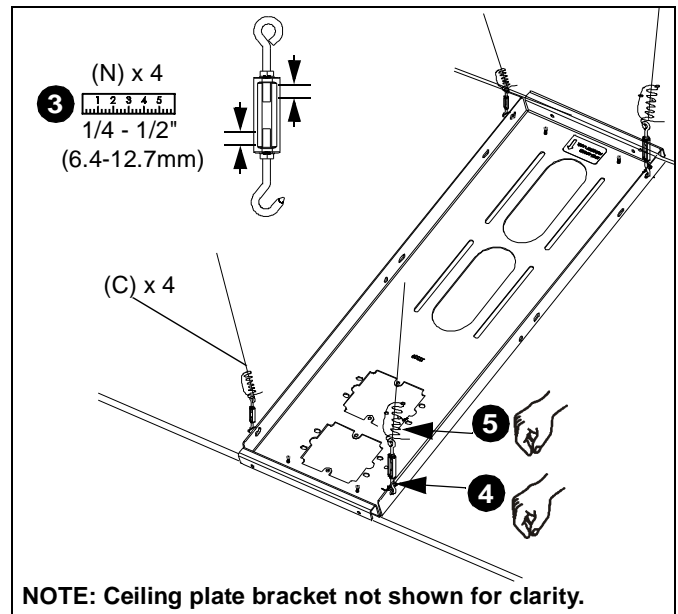

Figure 11
3. Adjust hooks and eyes on turnbuckles (N) so that approximately 1/4" - 1/2" (6.4mm - 12.7mm) of threads show on *inside* of turnbuckles (See Figure 11).
4. Attach the hook end of each turnbuckle (N) to the corresponding hole on the ceiling tray. (See Figure 11)
5. Insert corresponding support wire (C) through eye in each of the four turnbuckles (N). Pull wire tight and twist back around itself at least 4 complete turns, then thread loose end between eye and first turn. (See Figure 11)
**CAUTION:** Failure to properly tension cables (C) may result in damage to ceiling tile framework!
6. Adjust turnbuckles (N) until tray (A) is supported *entirely* and *evenly* by all four support wires (C), but not so tight as to distort suspended ceiling framework (See Figure 11).